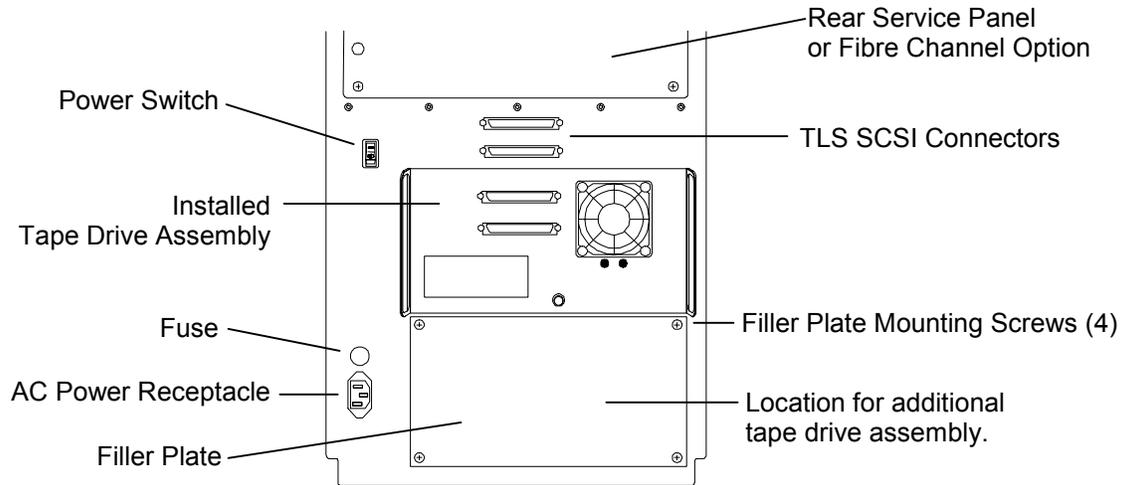

Figure 5-16 TLS Rear View – Model 6210 Shown
3. For each Tape Drive Assembly that is being installed, remove all four filler plate mounting screws, and then remove the filler plate (Figure 5-16).